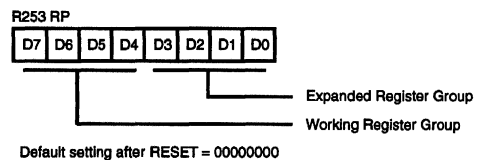

Figure 9. Register Pointer Register
The low nibble (D3-D0) of the Register Pointer (RP) selects the active ERF group, and the high nibble (D7-D4) of register RP selects the working register group (Figure 9).